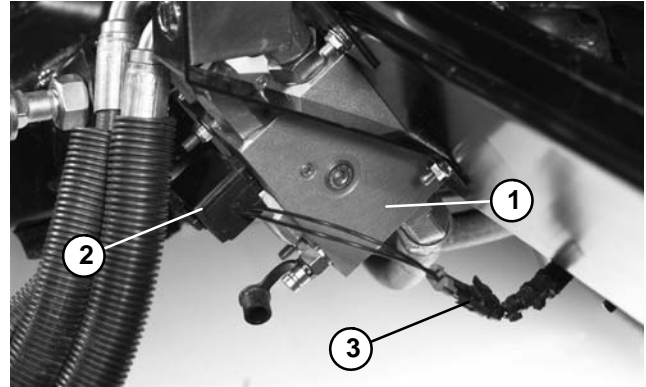

Figure 22
1. Make sure engine is off. Disconnect hydraulic valve solenoid electrical connector (Fig. 22).